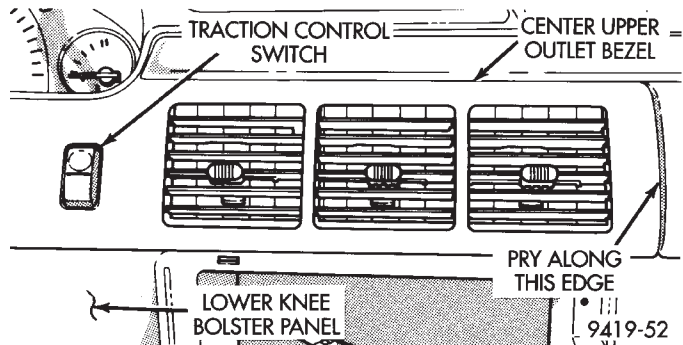
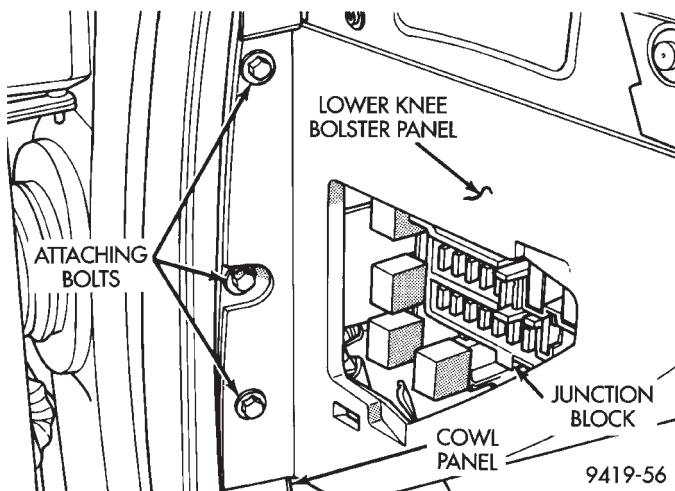
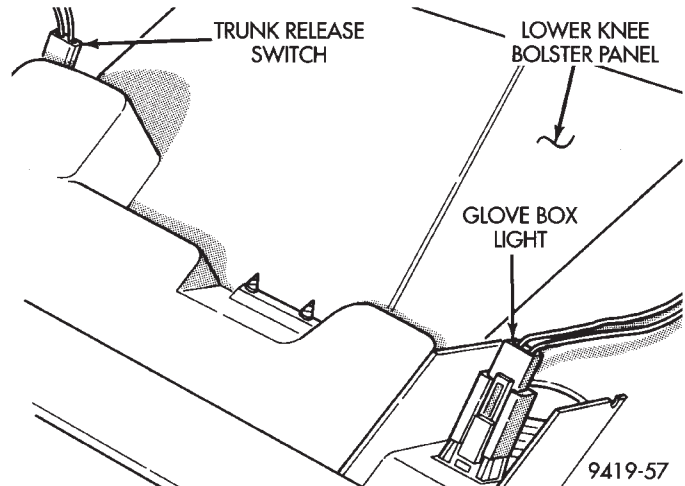
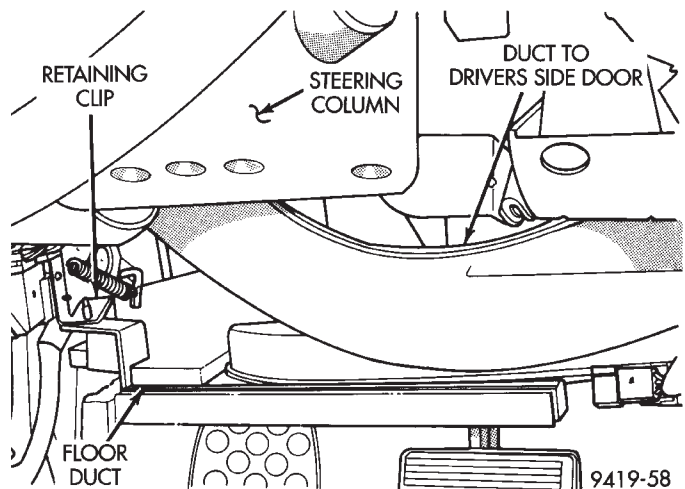

Fig. 14 Center Upper Outlet Bezel
Fig. 18 Lower Knee Bolster To Cowl Attaching Bolts (Left Side Shown)
Fig. 19 Trunk Release Switch And Glove Box Light Wiring Connections
Fig. 20 Under Steering Column Heat And A/C Ducts
(14) Remove the center upper outlet bezel (Fig. 14) from the upper instrument panel. Bezel is removed by carefully prying right side of bezel out from upper instrument panel until bezel can be grasped by hand. Then pull bezel out from upper instrument panel by hand, until the 2 retaining clips are disengaged. If vehicle is equipped with traction control, disconnect electrical connector from traction control switch.
(19) Remove the 6 bolts (3 each side) attaching the lower knee bolster panel to the cowl panel (Fig. 18).
(20) Carefully remove the lower knee bolster panel, from the upper instrument panel. Lower the knee bolster panel until the wiring connectors for the glove box light and trunk release button (Fig. 19) are accessible. Then disconnect the connectors from the light and switch.
(22) Remove the 2 under steering column, heat and A/C ducts (Fig. 20).
(14) Install the 2 under steering column heat and A/C ducts (Fig. 20).
(15) Install lower knee bolster panel back in the interior of the vehicle. Feed wiring for radio, A/C control, cigar lighter and ash receiver through center hole of bolster panel.
(16) Install wiring harness connectors back on trunk release switch and glove box light (Fig. 19).
(17) Install lower knee bolster panel onto upper instrument panel. Ensure the 3 tabs on the knee bolster panel are installed into the 3 mating slots in the upper instrument panel.
(18) Install **but do not tighten**, the 6 bolts (3 each side) attaching lower knee bolster panel to cowl panel (Fig. 18). **Bolts should be tight enough to correctly position knee bolster, but still allow for movement to align remaining attaching holes.**
(22) Securely tighten the 6 bolts (Fig. 18) attaching lower knee bolster panel to vehicle cowl panel.
(23) Connect vehicle wiring to the ash receiver light and the cigar lighter.
(24) Install the center upper air outlet bezel, back on the upper instrument panel. If vehicle is equipped with traction control, connect wiring harness connector onto the traction control switch (Fig. 14).